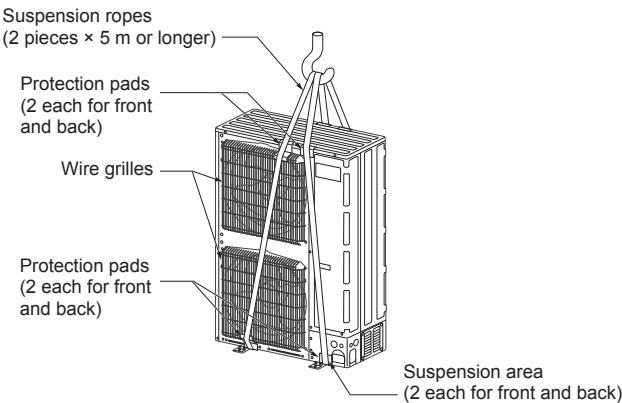

Fig. 2-2
2.3.1. Hanging the unit (Fig. 2-2)